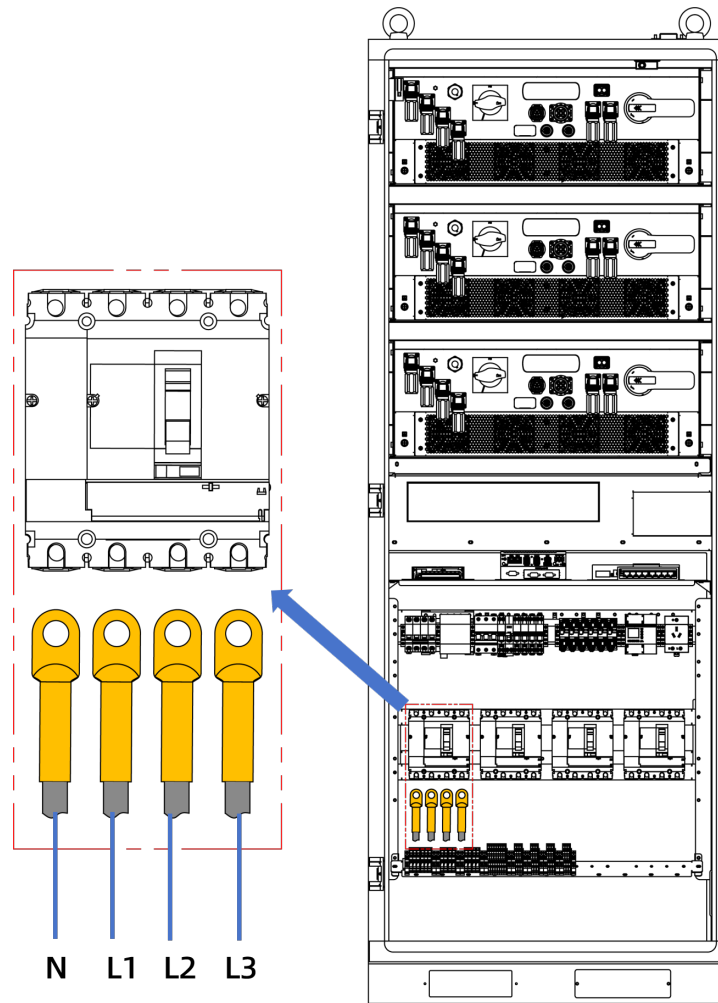

Figure 8-7: Power connections of QF11
- c. Connect power cables to circuit breaker **QF11** with M8 fasteners as shown in Figure 8-7: The terminals on QF11, from left to right, are connected to the N, L1, L2, and L3 phases of the external power supply, respectively.